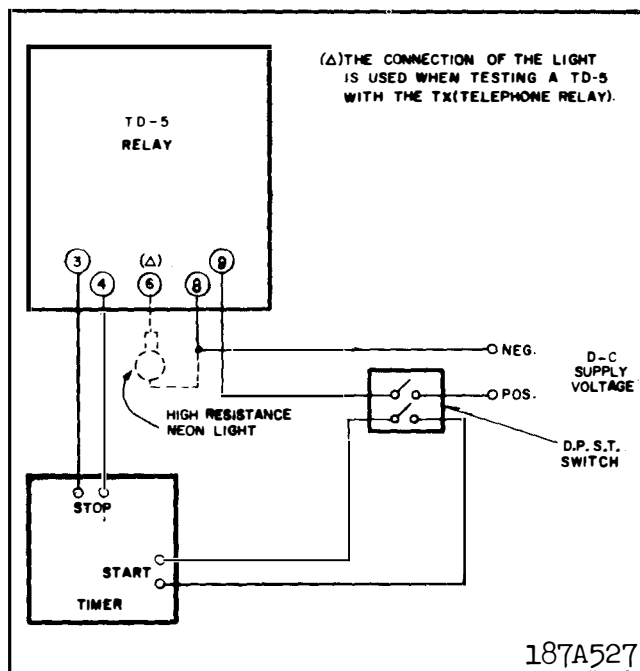

Fig. 4 Test Circuits for Type TD-5 Relay.
A timing check at minimum and maximum settings is recommended to insure that the relay is in proper working order. A recommended test circuit is shown in Figure 4. When testing the TD-5 with a TX telephone relay make the dotted connection as shown in Figure 4. The neon lamp will light if the TX relay is operating properly.
2. Check the reference voltage circuit. This is done by measuring the d-c voltage across the silicon power regulator, Z. Connect the d-c voltmeter positive terminal to the rear terminal of RS and the negative terminal to relay terminal 8. Apply rated voltage per the test circuit diagram, Figure 4. The Zener voltage should be between 11.0 and 13.0 volts for 24/32 volt relays, between 21.5 and 24.5 volts for 48/125 volt relays, and between 50 and 58 volts for 250 volt relays.